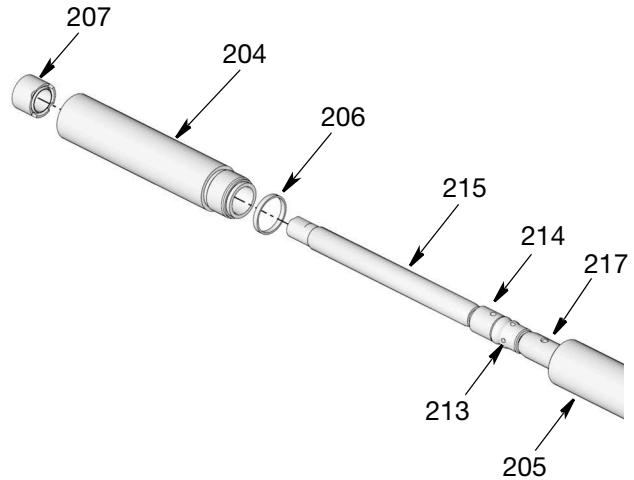

FIG. 31
18. Separate the pump cylinder (204) from the spacer cylinder (205) using two strap wrenches, working in opposite directions to loosen spacer cylinder. When cylinder (204) is loose enough, use your hand to unscrew and remove it from the other section (FIG. 31).